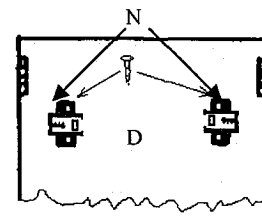
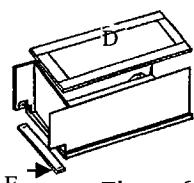

Figure 5
Figure 6
5. Install the back panel and toe kick (Figure 5 & 6): before you start this step, put the back panel (D) on a flat surface face up. Install the drawer rail holders (N) in the pre-spotted area on the back panel (Figure 5). The opening of the holders should be facing towards each other. Secure them with 2 round head screws (H) (Figure 5). Then put the back panel (D) at rear of side panel (B) (Figure 6). Align it and lock each cam lock. Install the toe kick by locking the cam lock at both ends (Figure 6).